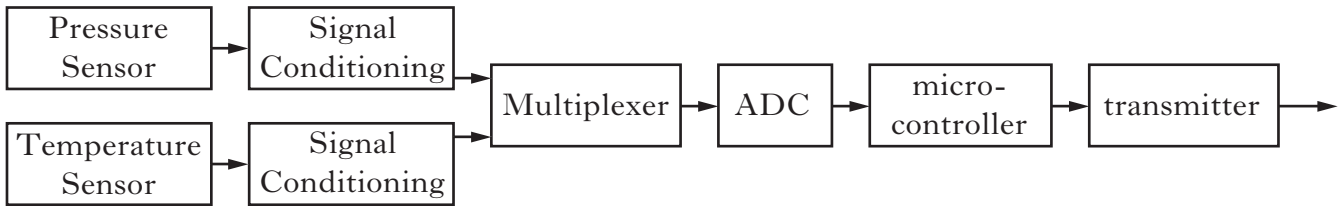

Figure Q10(a)
10. A microcontroller-based warning system monitors the tyres of a lorry for high and low tyre pressures. Each wheel has a processor unit containing a pressure sensor, a temperature sensor, and a microcontroller. A built-in radio-frequency transmitter sends data to a receiver which is connected to dashboard warning lamps. Figure Q10(a) shows a block diagram representing the system for one wheel processor-unit.